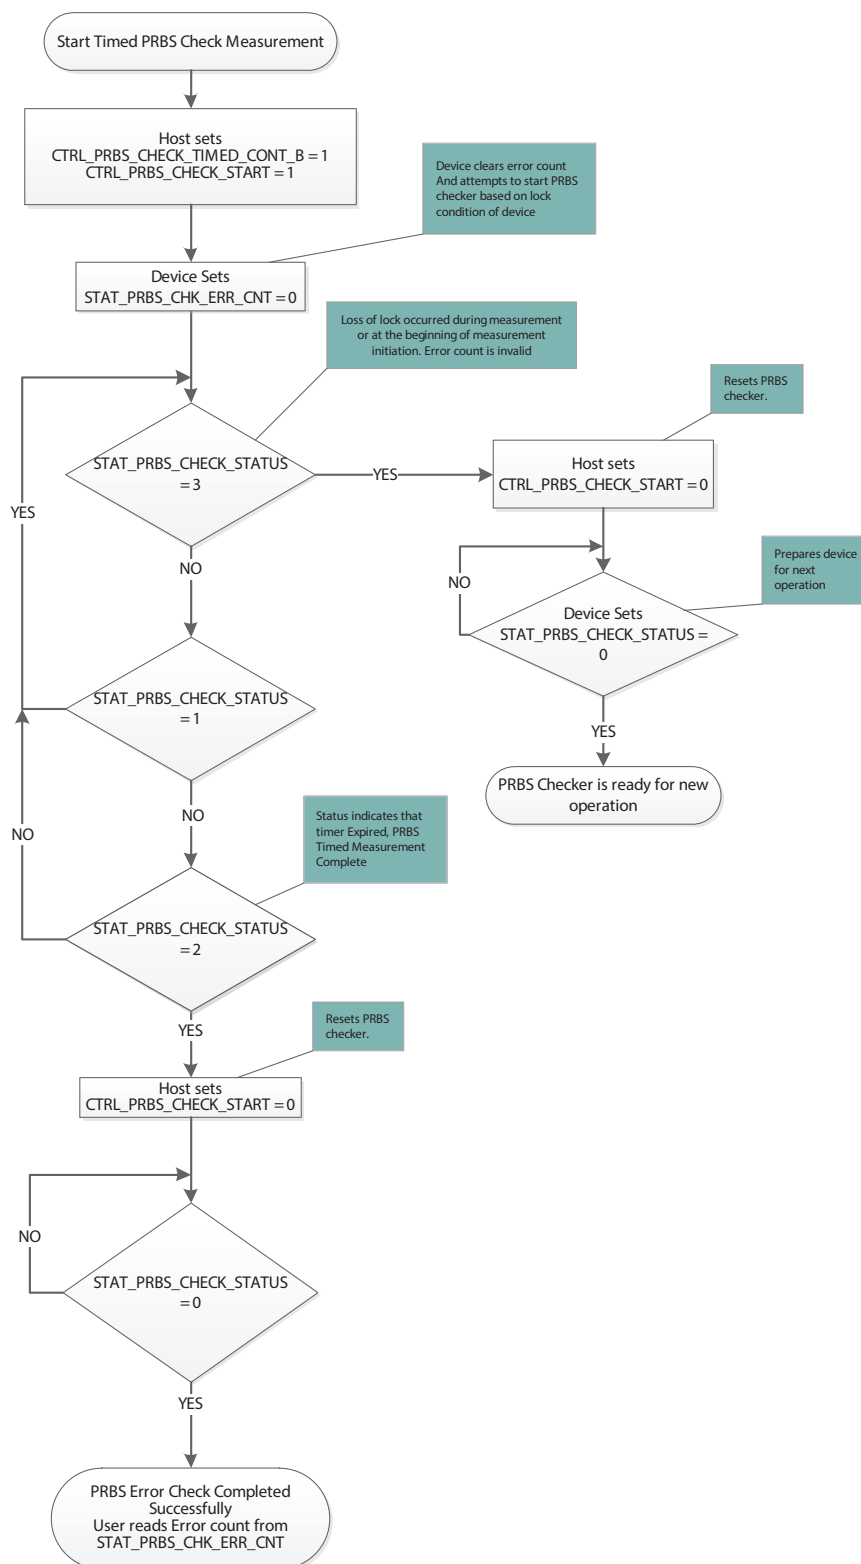

Figure 4-4: Timed PRBS Check Flow
2. Follow the steps outlined in the flowchart found within Figure 4-4: Timed PRBS Check Flow.